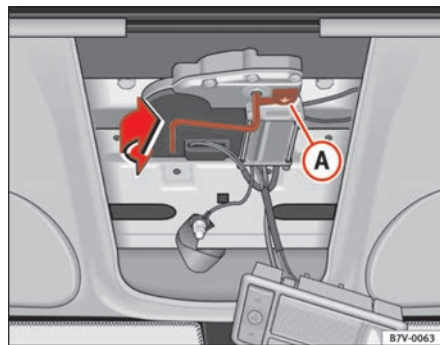

Fig. 69 Manual release
- Turn the cover **A** ⇒ fig. 69 of the lever opening in the direction of the arrow.
- Replace the lever in its casing and turn the cover **A** ⇒ fig. 69 over the lever opening.